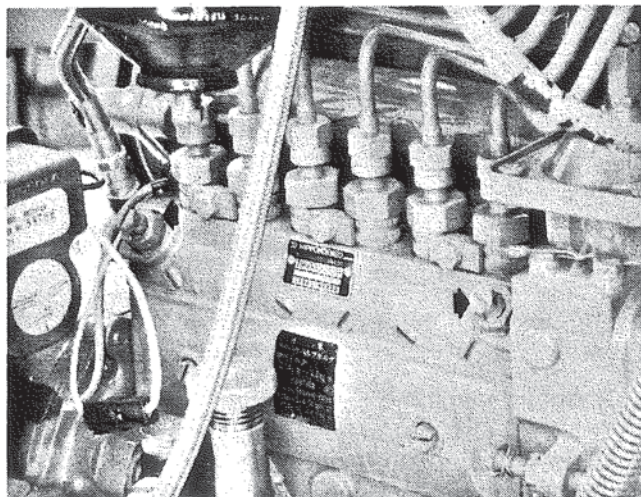

Figure 21. Fuel Injection Pump Air Bleed Screws.
A. Loosen bleed screw at rear of pump. Figure 21.
C. Loosen bleed screw at front of pump. Figure 21.